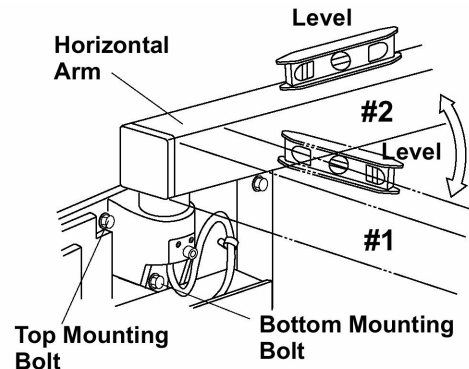

FIGURE 5.
1. Incorrect leveling of the wall plate and wall bracket can cause arm drift. First, check leveling with horizontal arm in position #1. (FIGURE 5) If not correct, bracket must be adjusted by placing shims behind the wall plate.
2. Check leveling in position #2. if not correct, adjust Horizontal Arm as follows : (FIGURE 5)